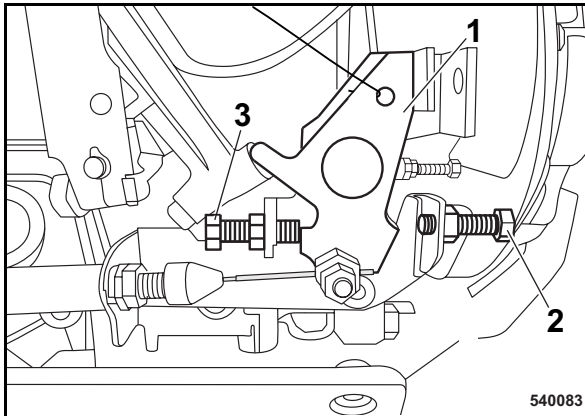

Fig. 60
- Adjust the idle speed using the rear stop screw (2) on the engine speed control lever (1) (Fig. 60).
- Adjust the maximum speed by the front stop screw (3).